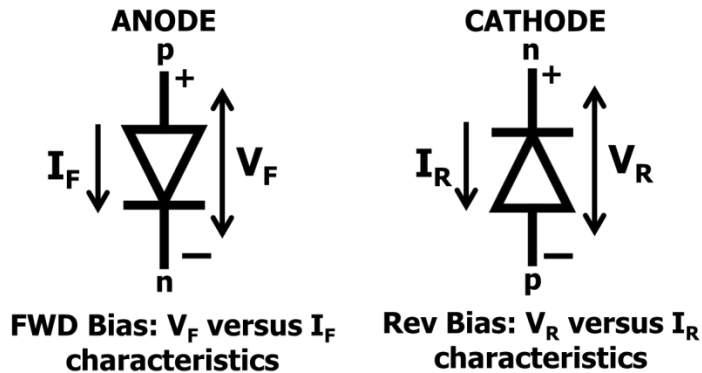

Fig 2.4
2.2.1 Diode characteristics: Refer fig 2.4 and 2.5